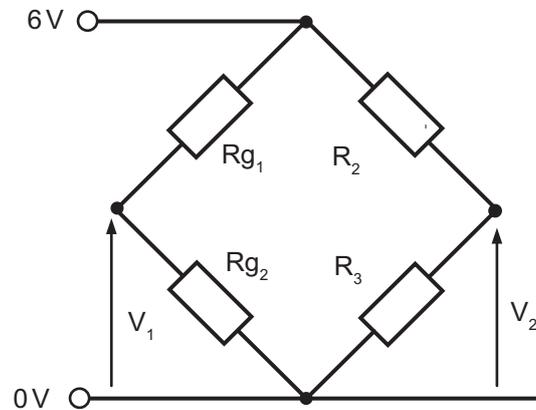

Fig. 2(c)
- (i) State the name of the circuit arrangement shown in **Fig. 2(c)**. [1]